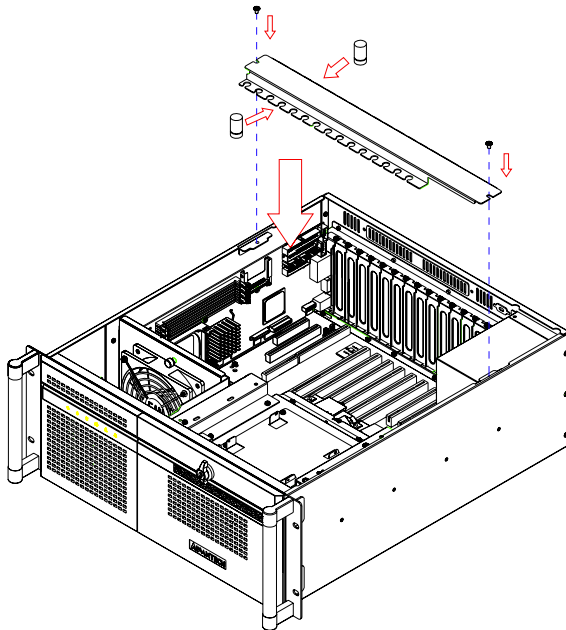

Figure 2.6: Installing rubber cushions and hold-down clamp
1. There are two rows of notches on both sides of the hold-down clamp for inserting into rubber cushions provided in the accessory box. One side is for PCI cards, while the other side is for ISA cards. Depending on the card height, the cushions can be inserted upward or downward. After the rubber cushions have been inserted into the notches, they will stabilize the add-on cards to protect them from shock and vibration. (see *Figure 2.6*)